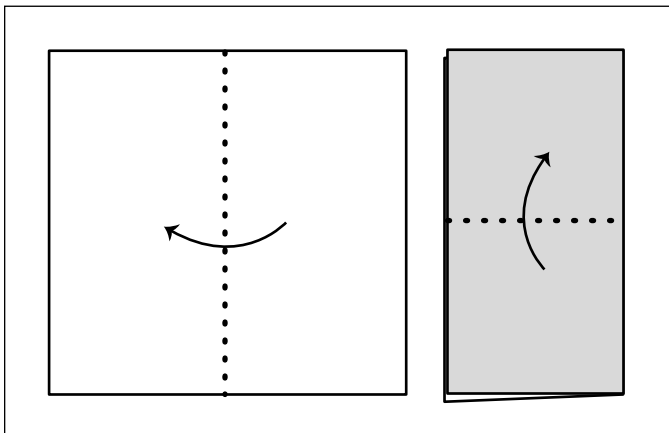

Figure 9-13:
- 2. Fold the paper in half along the vertical and horizontal lines as in Figure 9-13.**